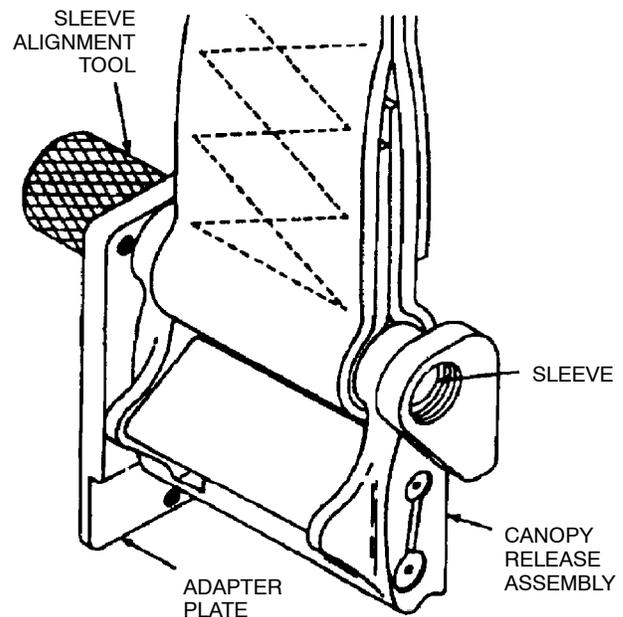

Figure 18. Opposite Inserted Sleeve Alignment Tool
g. Opposite inserted sleeve alignment tool ensure sleeve canopy release and adapter plate holes are aligned (Figure 18).